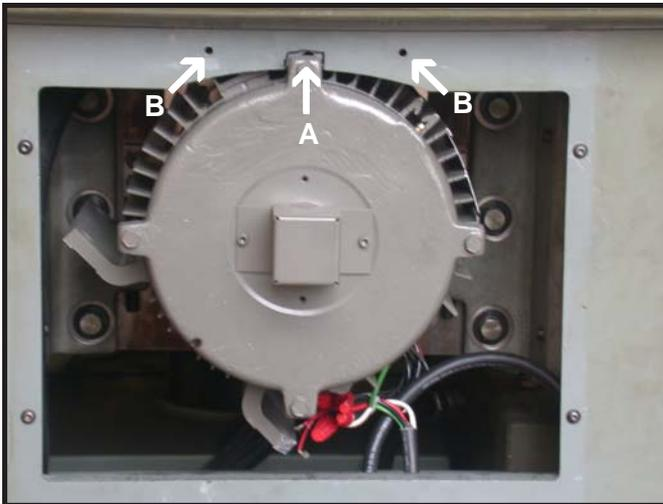

Figure 3.4.2
Before new A.C. motor can be installed, cut a notch in the lathe frame as shown to allow clearances for motor. Centering between bolt holes (Figure 3.4.2 - B), cut notch (A) one inch wide by one half inch high.